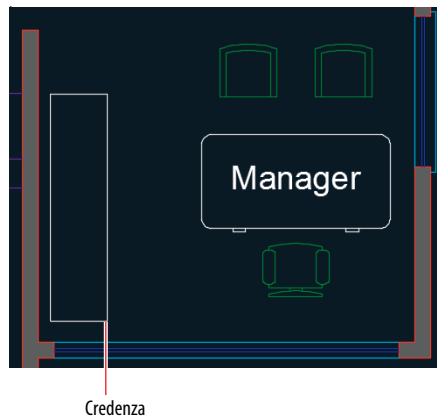

FIGURE 6.5 Drawing furniture on layer 0
2. Select the Home tab on the ribbon. Click the Rectangle tool on the Draw panel, and click a point a few inches (no need to measure) from the lower-left corner of the room. Type `@18,72` (or `@45,180` for metric) and press Enter to create a credenza in the manager's office (see Figure 6.5).